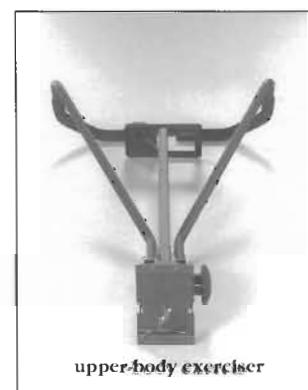

Figure 2
- 1 Upper-body exerciser (Figure 2)